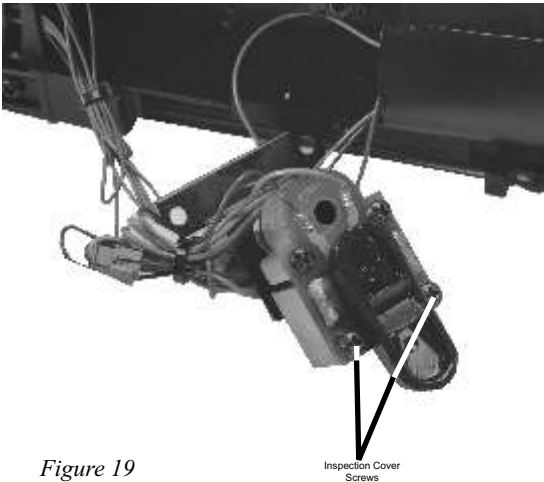

Figure 19
4. Once the unit is freed, remove the inspection cover (Fig. 19). Inspect the wick; if it is darkly discolored and hard, it should be replaced.